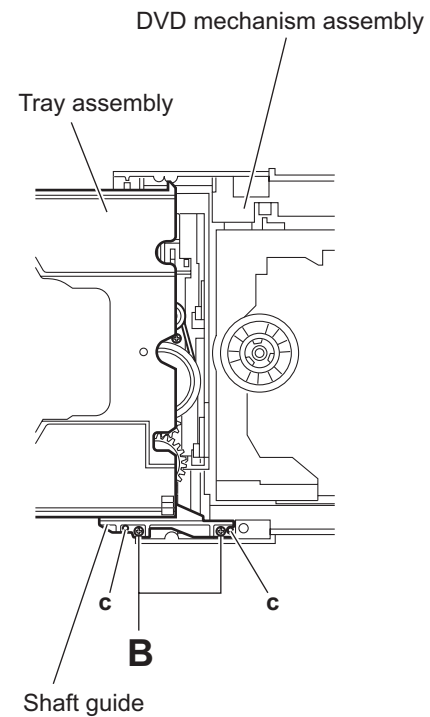

Fig.2
3.2.2 Removing the tray assembly (See Fig.2)